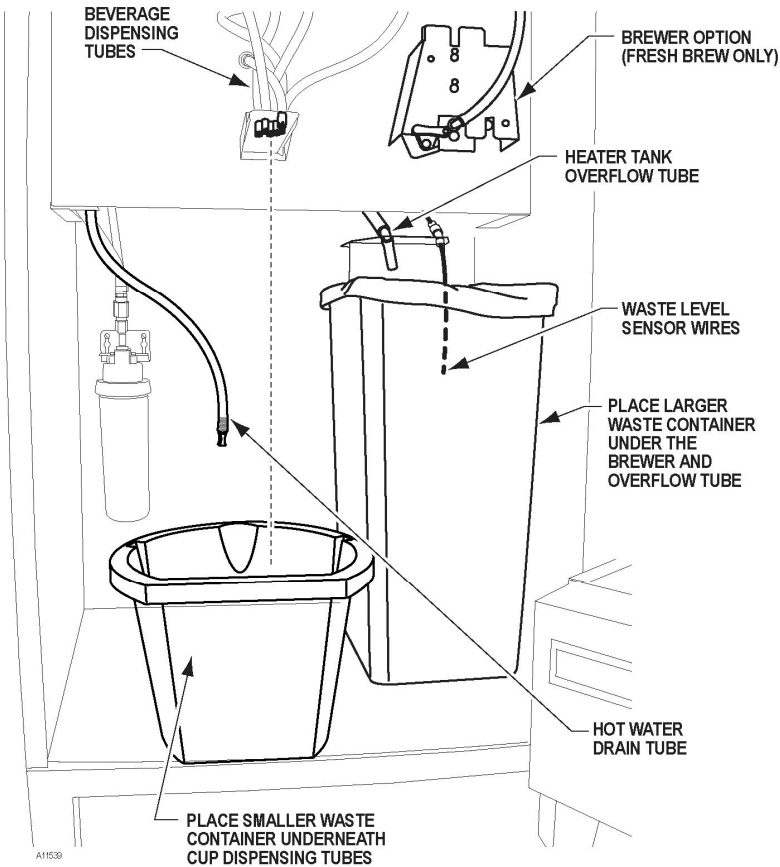

Figure 10a
2. Place the small bucket under the cup dispensing tubes. See Figure 10a